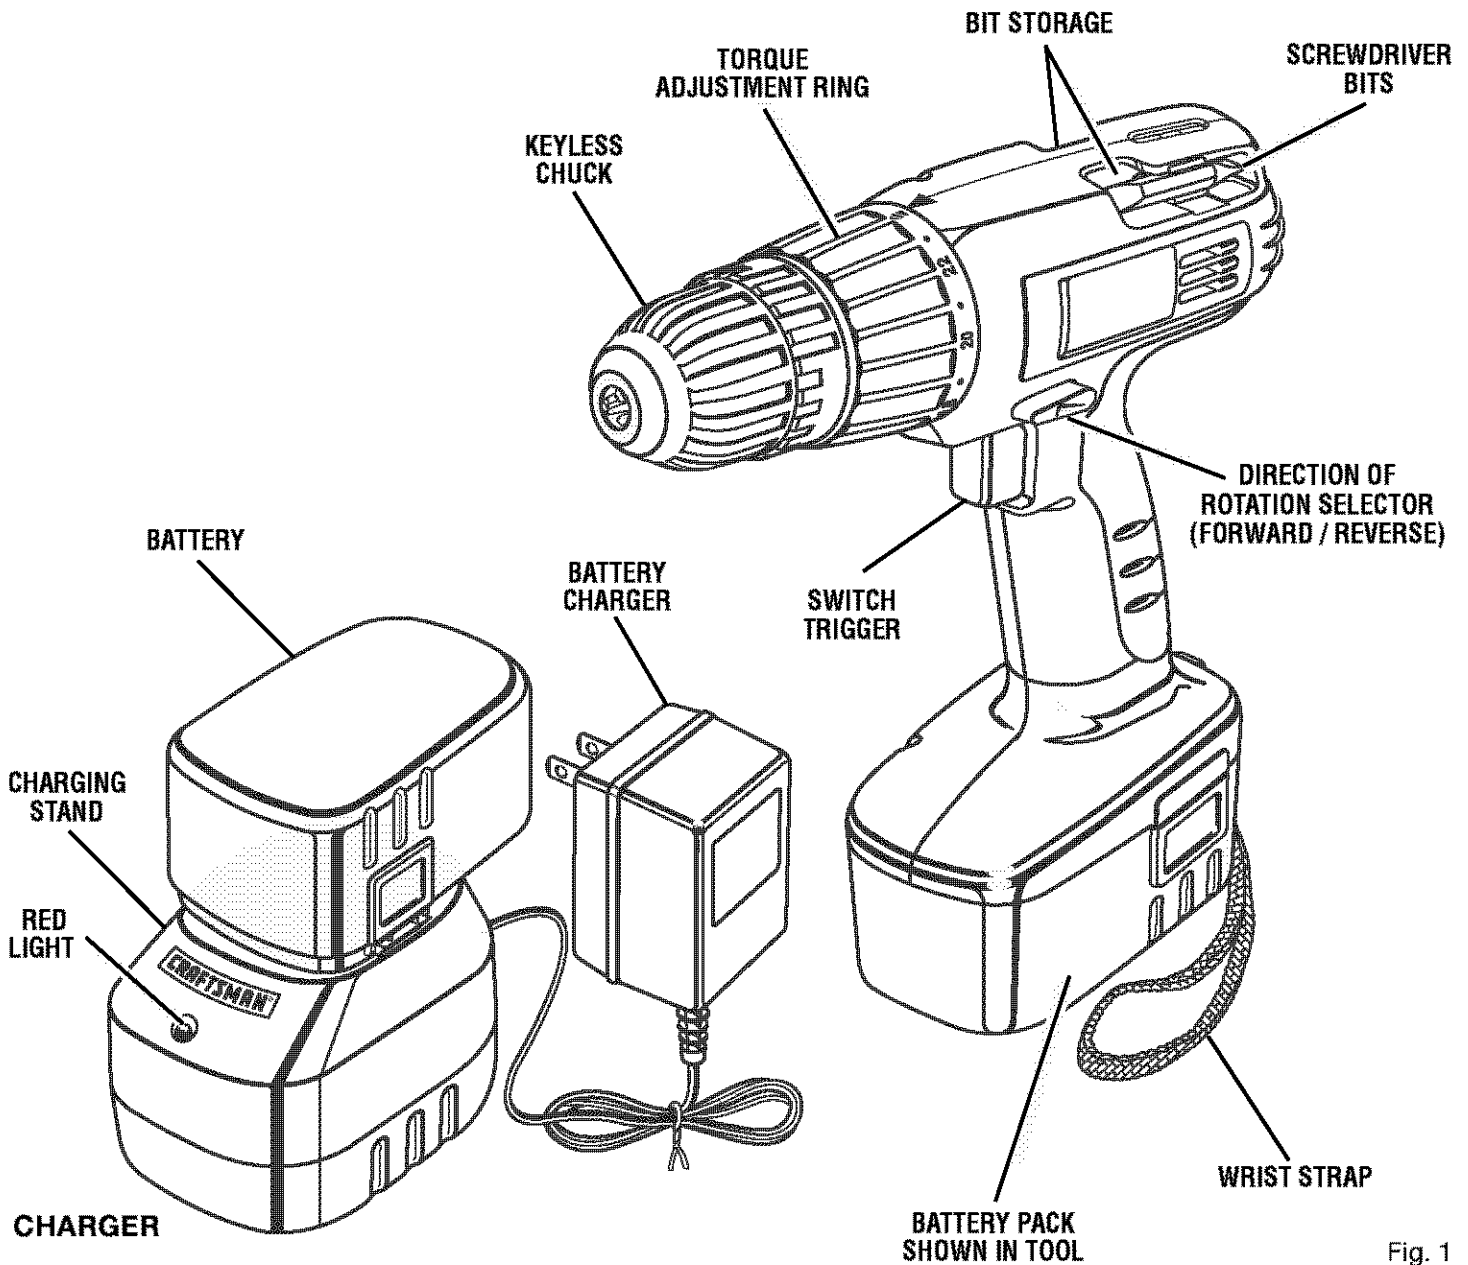

Fig. 1
### See Figure 1.
See Figure 1. Page 9
- Place battery pack in charging stand. Align raised rib on battery pack with groove in charging stand. See Figure 1.